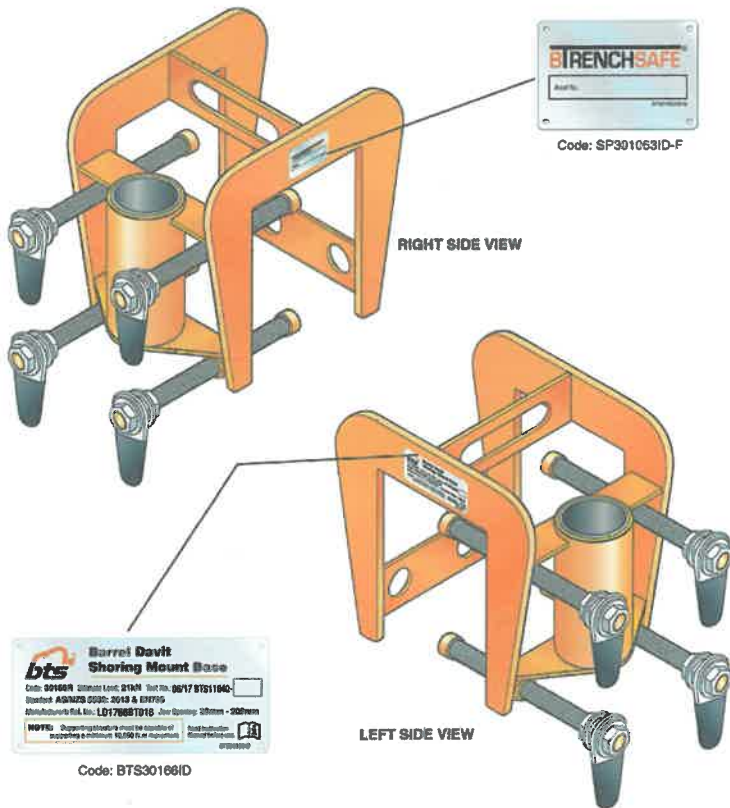

Figure 3, Typical Barrel Mount Labels
Inspect the Barrel Mount and all accessories for physical damage ie bent parts, loose or missing hardware or parts or illegible labels (see Figure 3). Replacement labels are available from BTS.
- Ensure all labels are present and fully legible (see Figure 3).